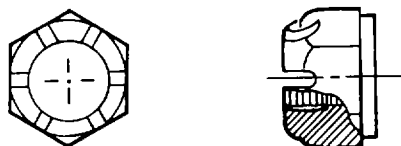

Figure 2-22. Airframe Castle Nut
(1) *Airframe.* Use AN310 airframe castellated nuts, as shown in figure 2-22, in conjunction with drilled head bolts or studs. Use a cotter pin or lockwire to secure this nut.